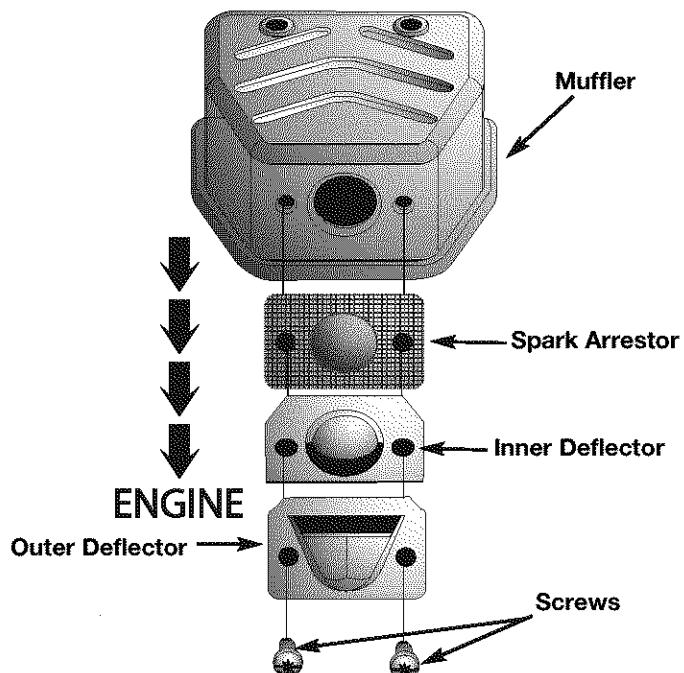

Fig. 36
2. Locate the muffler, and find the two (2) screws on the bottom of the muffler (Fig. 36). These two screws hold the exhaust deflector assembly and the spark arrestor screen to the bottom of the muffler. Remove the two (2) screws using an appropriate screwdriver.
6. Place the inner deflector on top of the spark arrestor as shown in Fig. 36. The beveled edges of the inner deflector must be away from the engine-side of the muffler.
7. Place the outer deflector on top of the inner deflector as shown in Fig. 36. The beveled edges of the outer deflector must line up with the beveled edges of the inner deflector. Verify that the exhaust will be directed AWAY from the engine.